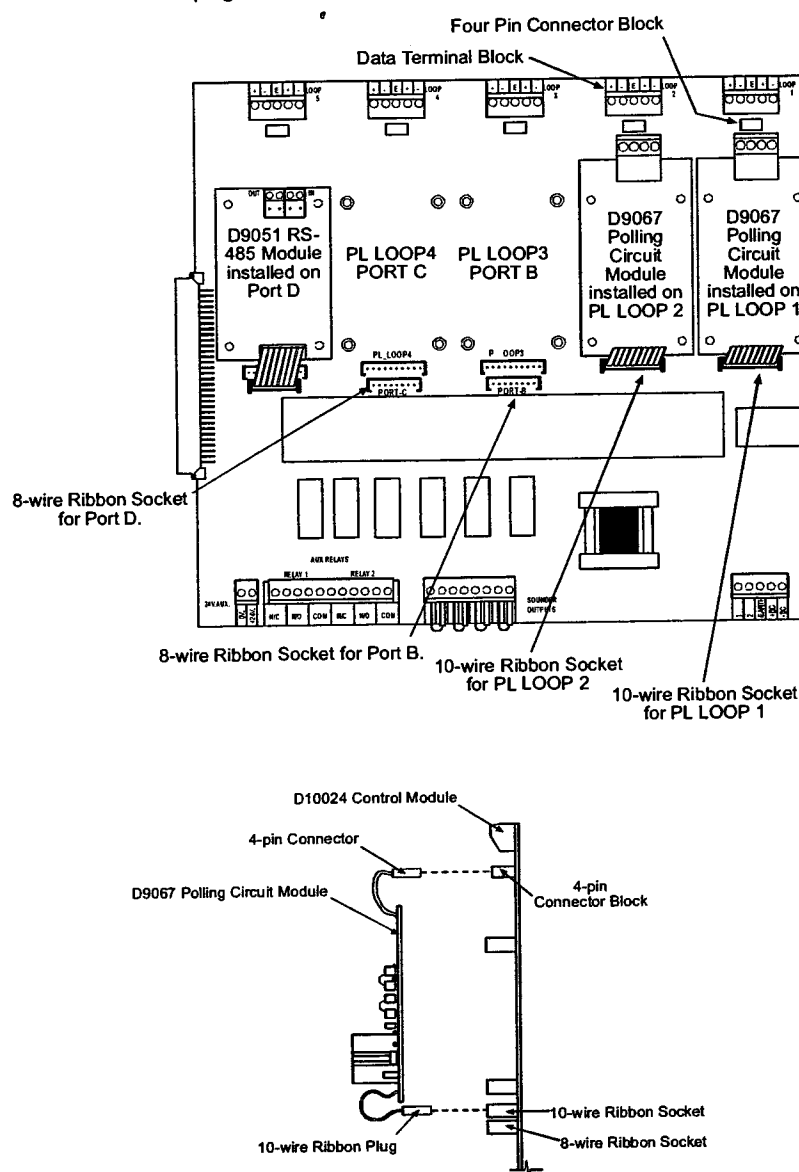

Figure 2: D9067 - D10024 Mounting
- 2) Mount the D9067 on the D10024 Control Module using the provided standoff pillars. Begin on the right side of the board in the slot labeled PL LOOP 1. See Figure 2.
- 3) If the D9067 must be "stack-mounted" under a D9051 RS-485 Bus Module due to the system configuration, use PL LOOP 3, 4 or 5 for "stack-mounting" purposes. Mount the D9067 to the D10024 Control Module. Then "stack" the D9051 over the D9067 with standoff pillars. See Figure 2.